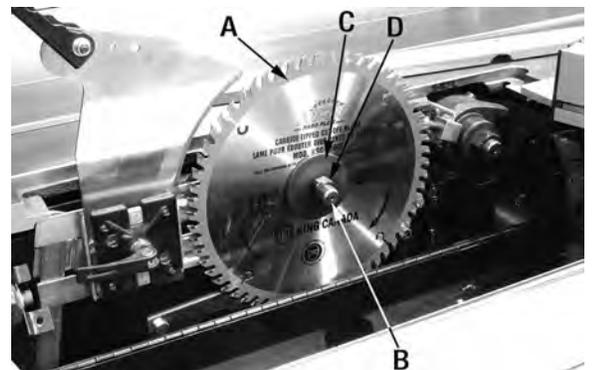

FIGURE 46
5. Install 10" saw blade (A) Fig.46 (not included) on the main spindle shaft (B) with the blade teeth facing towards the front of the scoring saw as shown.
6. Reinstall the blade flange (C) Fig.46 and hand tighten the arbor nut (D) by turning it counterclockwise.